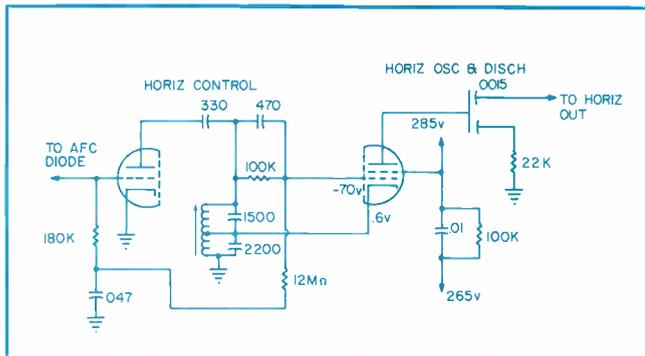

Fig. 3—Horizontal multivibrator circuit used in a number of TV sets.
Westinghouse employs the multivibrator shown in Fig. 3. Coupling between the two oscillator sections is a padder which changes the time constant (TC).